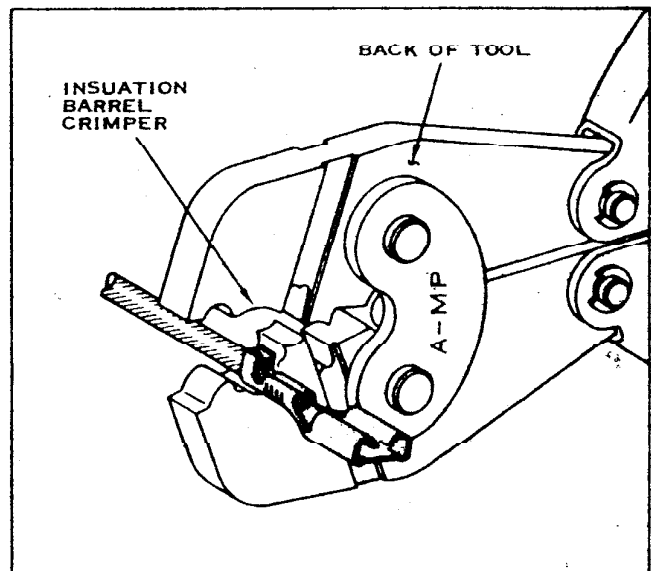

FIGURE 3
6. Place the terminal's insulation barrel in the Insulation Crimping Section. Figure 3 shows you how.